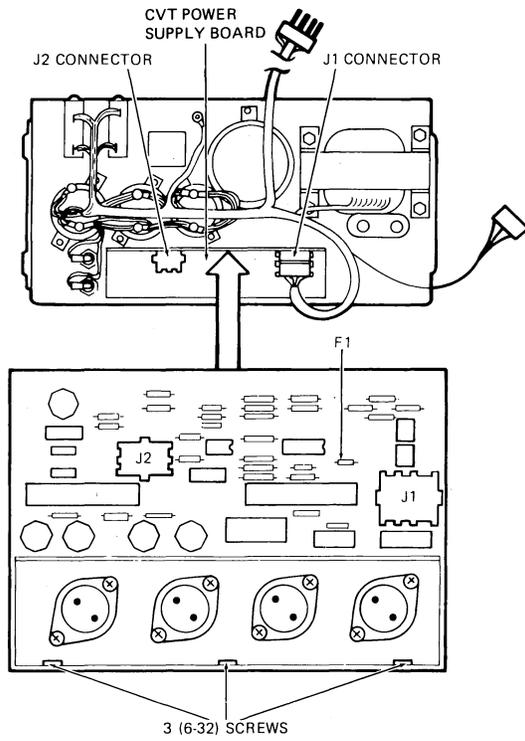

Fig. 28-CVT Power Supply Board Removal and Installation
- (c) Disconnect the cables from J2 and J3 on the CVT power supply board (Figure 28).